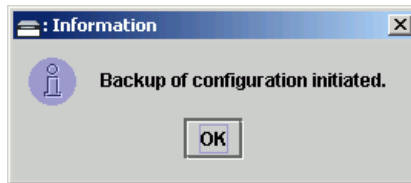

Figure 4-70 Information Dialog Box
4. Click *Backup*. An *Information* dialog box displays, indicating the backup operation was initiated (Figure 4-70).